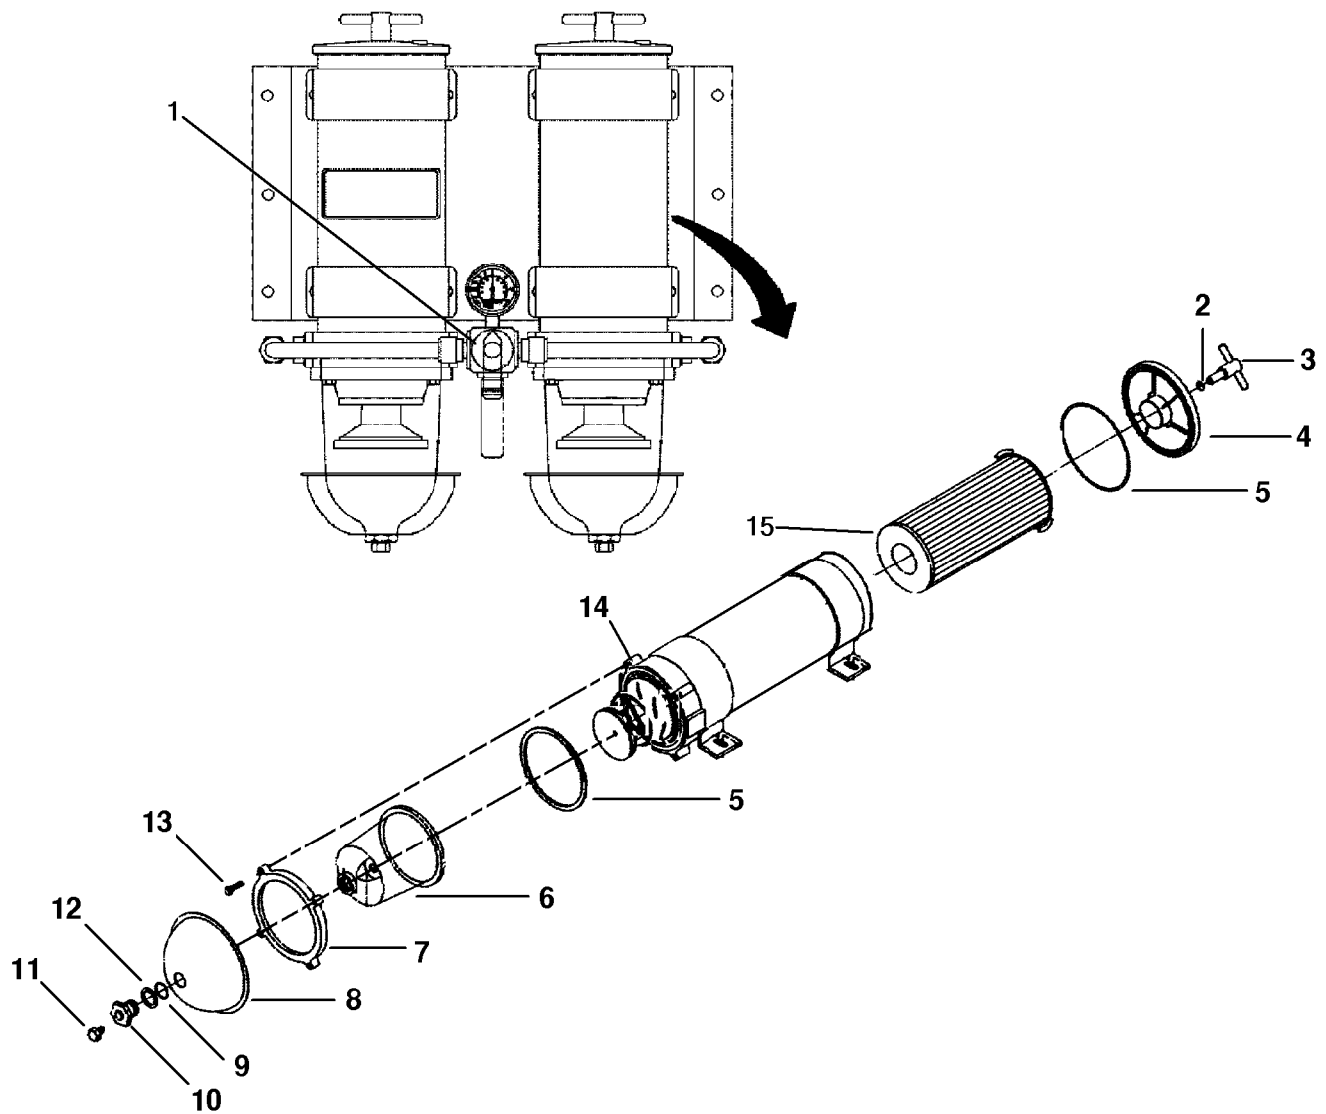

FIGURE 2-18B. Fuel Filter/Water Separator.
2-21.2. Repair Fuel Filter/Water Separator. (FIGURE 2-18B)
- a. Position the three way valve assembly (1, FIGURE 2-18B) to isolate the fuel filter/water separator being repaired.
- b. Remove T-handle (3) and T-handle preformed packing (2) from access cover (4).
- c. Remove access cover (4) and gasket (5).
- d. Place a suitable container under catch basin; remove bowl plug (11) to drain fluid from fuel filter water separator.
- e. Grasp tabs on fluid filter element (15) and remove.
- f. Remove four machine screws (13), bowl ring (7), sediment bowl (6) and gasket (5) from base (14).
- g. Remove bowl drain fitting (10), bowl drain gasket (12), O-ring (9) and heat deflector (8) from sediment bowl (6).
Repair of the fuel filter/water separator is by replacement of O-ring (2, Figure 2-18B), gaskets (5), bowl plug (11), drain fitting (10), gasket (12), O-ring (9) and fluid filter element (15).
- a. Place bowl ring (7, Figure 2-18B) over sediment bowl (6).
- b. Install heat deflector (8), O-ring (9), and bowl drain gasket (12) onto sediment bowl (6); secure with bowl drain fitting (10).
- c. Place gasket (5) on sediment bowl assembly (6) and secure with four machine screws (13) to base (14).
- d. Install fluid filter element (15). Push firmly into place.
- f. Install T-handle preformed packing (2) and T-handle (3) into access cover (4).
- g. Lubricate gasket (5) with clean fuel; install gasket (5) and access cover (4)
- h. Rotate three way valve assembly (1) to desired position.